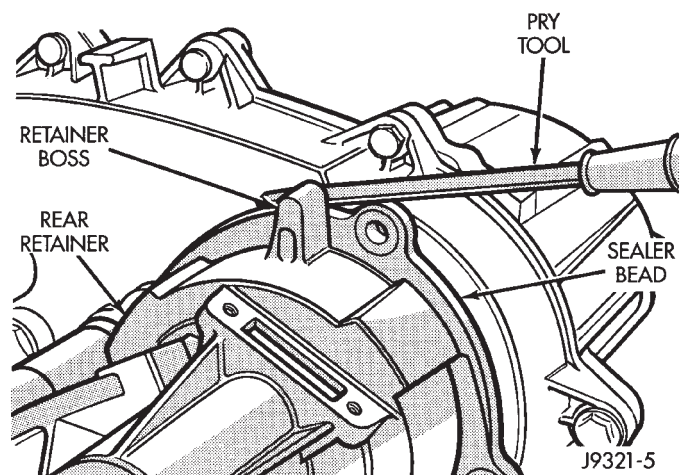

Fig. 5 Loosening Rear Retainer
(6) Loosen rear retainer with pry tool to break sealer bead. Pry only against retainer boss as shown (Fig. 5).